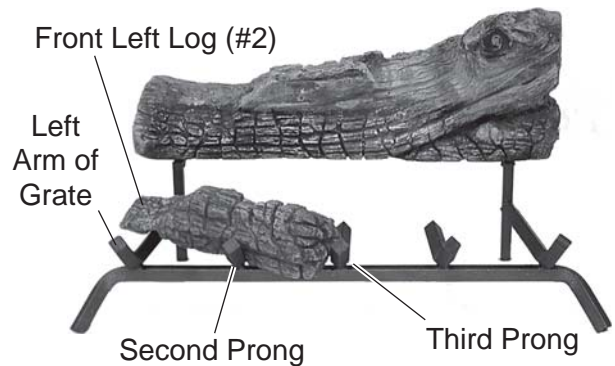

Figure 77 - Placing Front Left Log (#2) on Left Arm of Grate
3. Place Front Left Log #2 in front of back log on left arm of grate. Rest end of bottom left log between second and third prong of grate. *See Figure 77.*